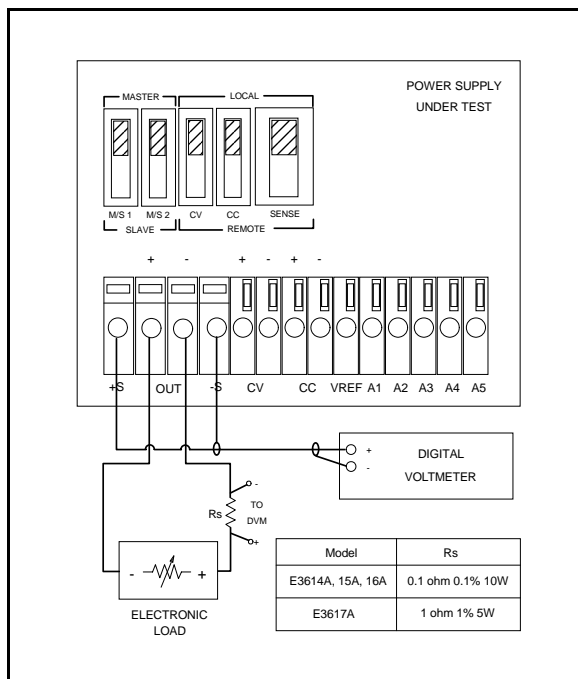

Figure A-4. Basic Test Setup
- Connect the test equipment as shown in Figure A-4. Operate the electronic load in constant current mode and set its current to the full rated value of the power supply (6 A for E3614A, 3 A for E3615A, 1.7 A for E3616A and 1 A for E3617A).
- Connect the test equipment as shown in Figure A-4. Operate the electronic load in constant current mode and set its current to the full rated value of the power supply.
- Connect the test equipment as shown in Figure A-4, but replace the DVM with the oscilloscope. Operate the electronic load in constant current mode.
- Connect the DVM across R_s in Figure A-4.
- Connect the DVM across R_s in Figure A-4. Operate the electronic load in constant voltage mode and set its voltage to the full rated value of power supply.